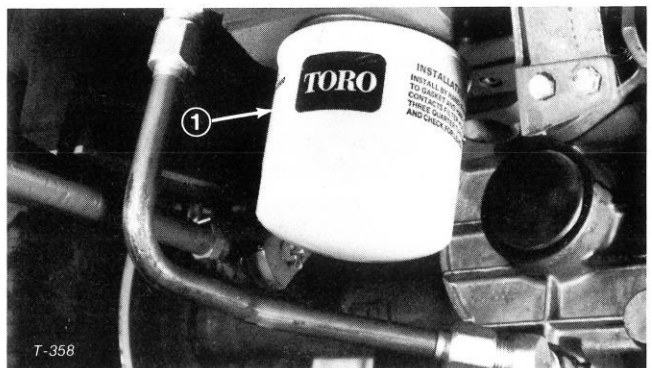

Figure 68
1. Clean area where hydraulic oil filter mounts. Remove filter from transmission (Fig. 68) and clean oil filter mounting surface on bottom of transmission.